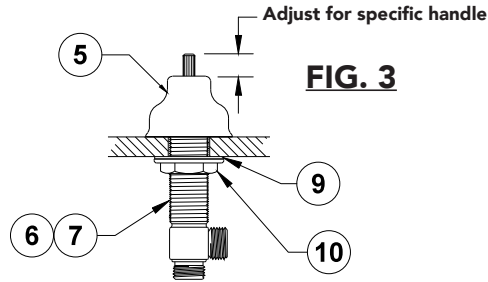

FIG. 3
2. Remove nut (16) and washers (14)(15) from spout.
3. Drop quick connect (12) from top of counter.
4. Install washers (14)(15) and nut (16) from bottom of counter and tighten.
5. Install "T" (17) with suitable pipe sealant.
6. Install hot and cold valve assemblies (6)(7) from bottom of counter. Install valve escutcheon (5) **Fig.3** on valve assemblies. Adjust valve assemblies per **Fig. 3**, tighten nut (10) on each valve assembly
8. Install hot and cold hoses (11) from "T" to each valve assembly.